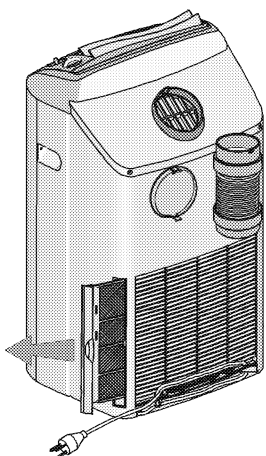

Figure 14
- Main filter removal and cleaning (See Figures 14, 15, 17, 18)
- To remove the main filter, hold the handle on its back and pull the filter out. (See Figure 14).